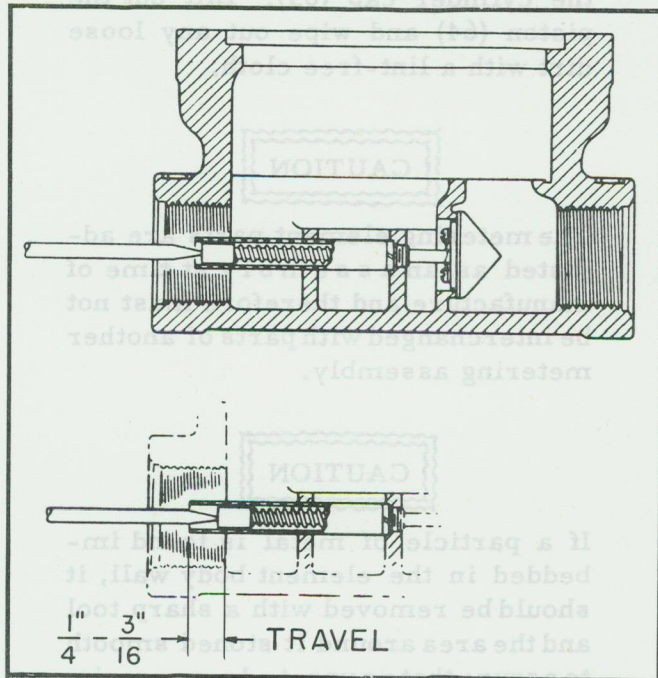

Figure 1-1. Proper Adjustment of Valve Nut
tube, sliding it over the valve stem (76) that projects into the other end of the tube. Insert the valve nut (82) in the tube. Hold the by-pass valve assembly in place and push a 1/4 inch screwdriver bit in the valve nut slot enough to overcome the spring pressure (see figure 1-1). Turn the nut until end of stem is available to put in cotter pin (83, figure 2-1). The travel of the nut from the fully extended spring position to spring compression position should be between 1/4 - 3/16 inch.